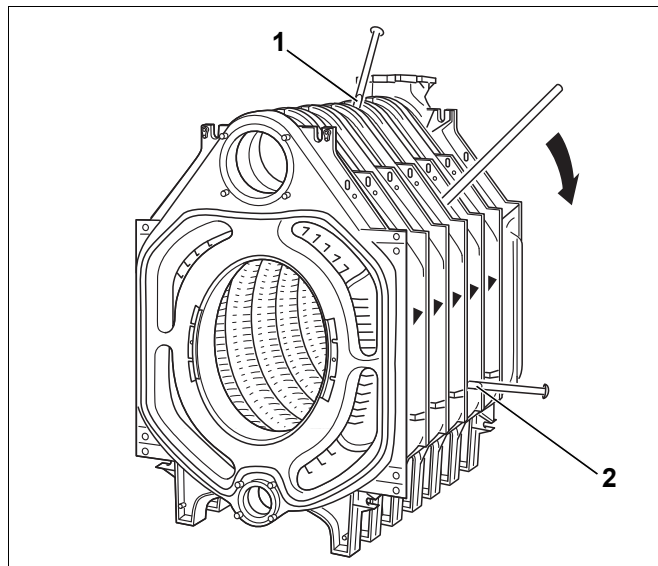

Fig. 27 Separate the boiler block
- Separate the boiler sections where the leak occurred by driving (hammering) flat wedges or chisel at the points provided (Fig. 27, [1] and [2] at the top and bottom).